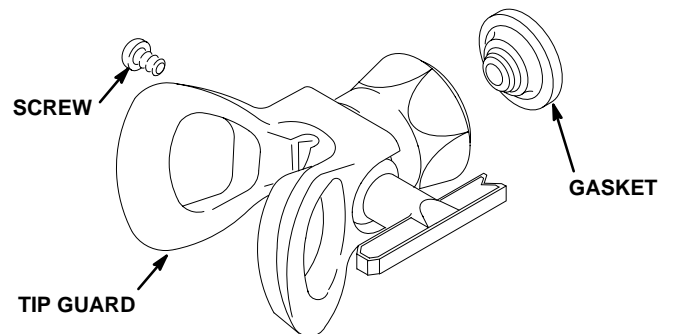

Fig. 10
4. Snap on the tip guard. Install the screw and the white gasket. See Fig. 10.
Be sure the tip arrow handle is in the FULL SPRAY position before operating the gun. See Fig. 10.